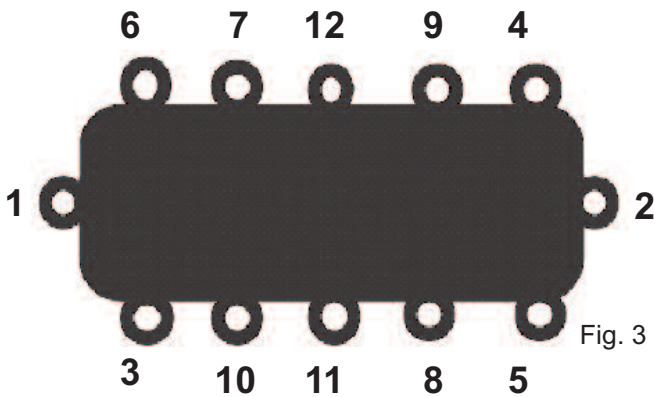

Fig. 3
Bolts must be tightened according to the pattern in Fig. 3 in ascending order. Torque specifications are 7FT/Lbs (±1/2). For field replacement, when no torque wrench is available, tighten nuts hand-tight, then turn 1/2 turn with a standard wrench.
14. Re-Install the twelve (12) 7/16" hex head nuts that secure the header.
15. Follow the torque pattern (and tightening specifications) when tightening the nuts onto the stud bolts as shown in Fig. 3. If drain plug has not yet been installed into the return header, do so now.